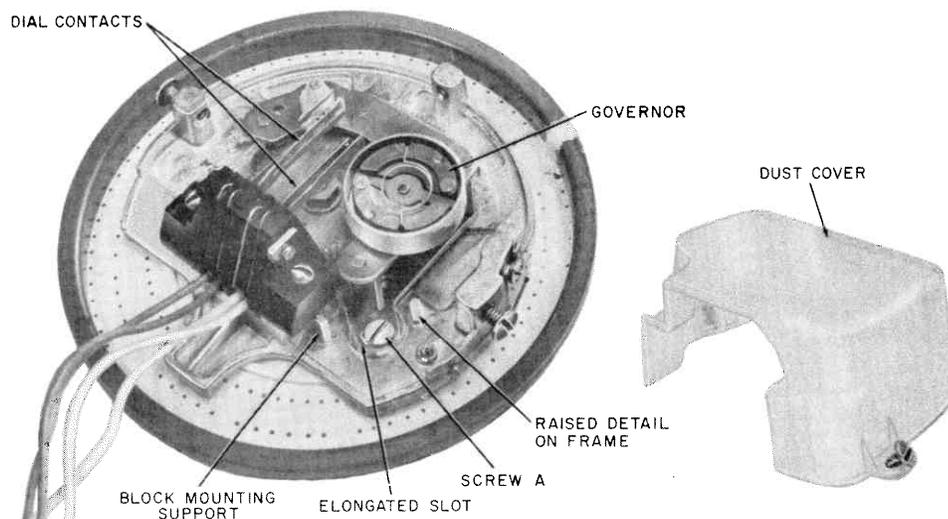

Fig. 25 — 7-Type Dial, Dust Cover Removed
- (3) Remove the dust cover from dial (Fig. 25).